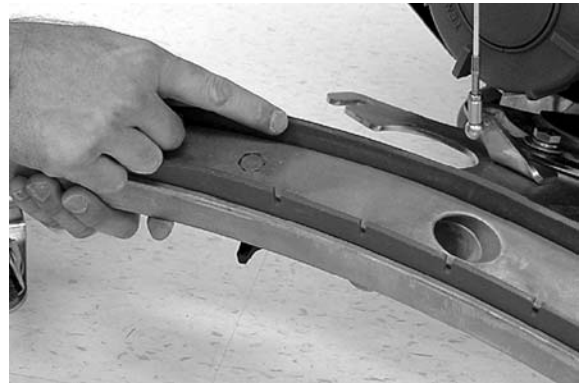

FIG. 42
- Check the condition of the squeegee blade wiping edge (Figure 42). Rotate blade if worn. (See SQUEEGEE BLADE REPLACEMENT)